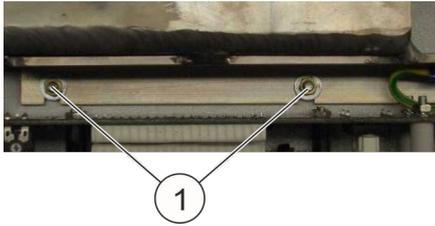

Fig. 54: Tank fastening
11. ▶ Remove the M3 nuts (Fig. 54/1) of the tank fastening with a 5.5 mm socket wrench.